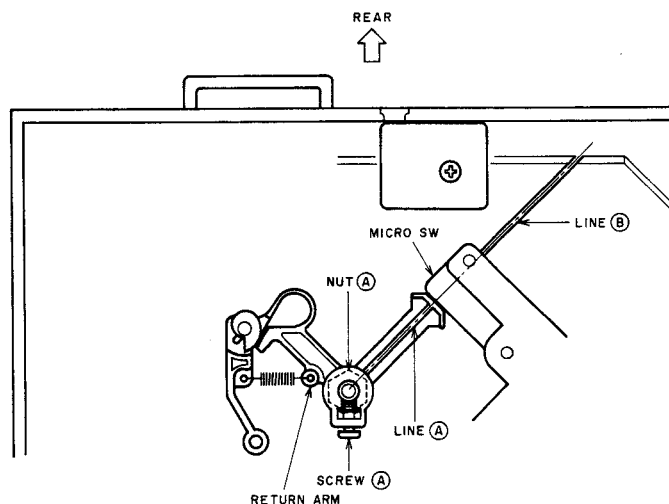

Fig. 6-2
- 3) May loosen the screw A a little and turn the RETURN ARM so that the line A on the RETURN ARM is aligned with the line B on the cabinet as shown in Fig.6-2, then tighten the screw A.